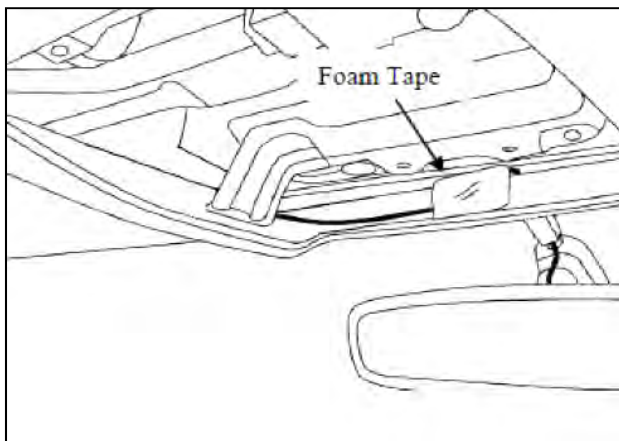

Figure 15
15. Secure the harness to the front center of the headliner with one (1) piece of foam tape. See Figure 15.